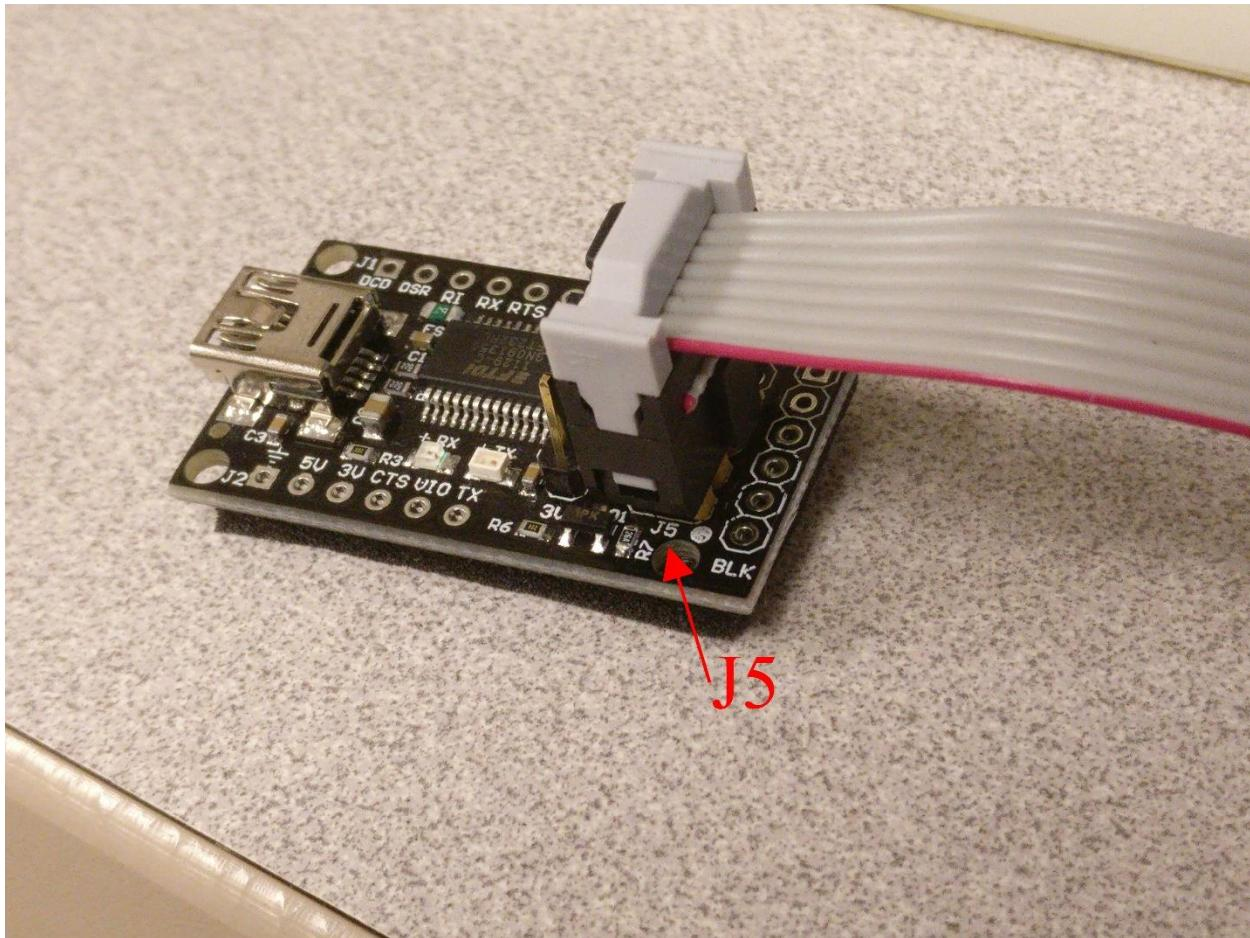

Figure 8-4 – Ribbon cable connected to Board Distribution Manager (BDM)
- a. The smaller module that came with the Thunderbird is the BDM. There will be a 4x2 configuration of pins with a yellow plastic base, labeled J5 (Jumper 5). Plug the ribbon cable that came with the Thundebird into J5 such that the red line is closer to the J5 silkscreen text. Refer to Figure 8-4 for an example of what the cable should look like plugged into the BDM.